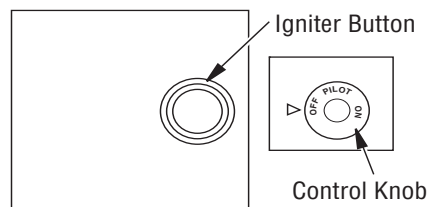

Figure 67 - Control Knob and Igniter Button Location
5. Wait five (5) minutes to clear out any gas. Then smell for gas, including near the floor. If you smell gas, STOP! Follow "B" in the safety information, column 1. If you don't smell gas, go to the next step.
6. Press in and turn control knob counterclockwise  to the PILOT position. Press in control knob for five (5) seconds (see **Figure 67**).